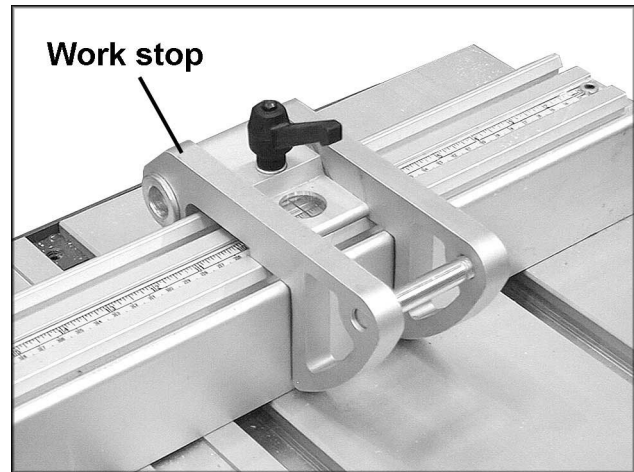

FIGURE 28
1. Put the stop (Fig. 28) at a certain measure and cut off a sample.